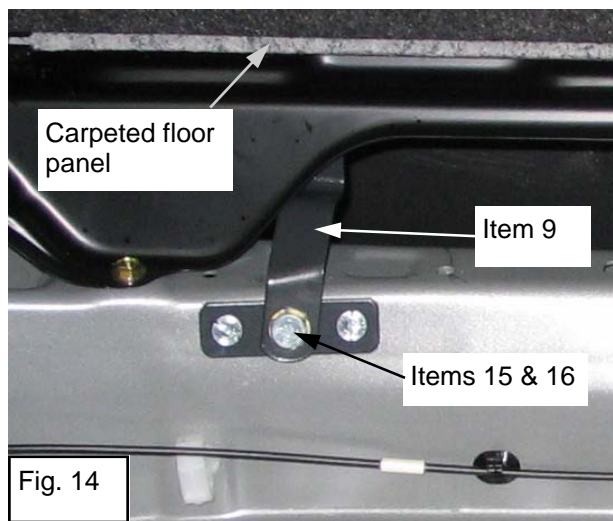

Fig. 14
1. Place Extension Straps Items 9 & 10 in position and secure with M10 Hex Head Screws Item 15 with crinkle washers Item 16 under head as shown in Fig. 14. Lightly tighten.